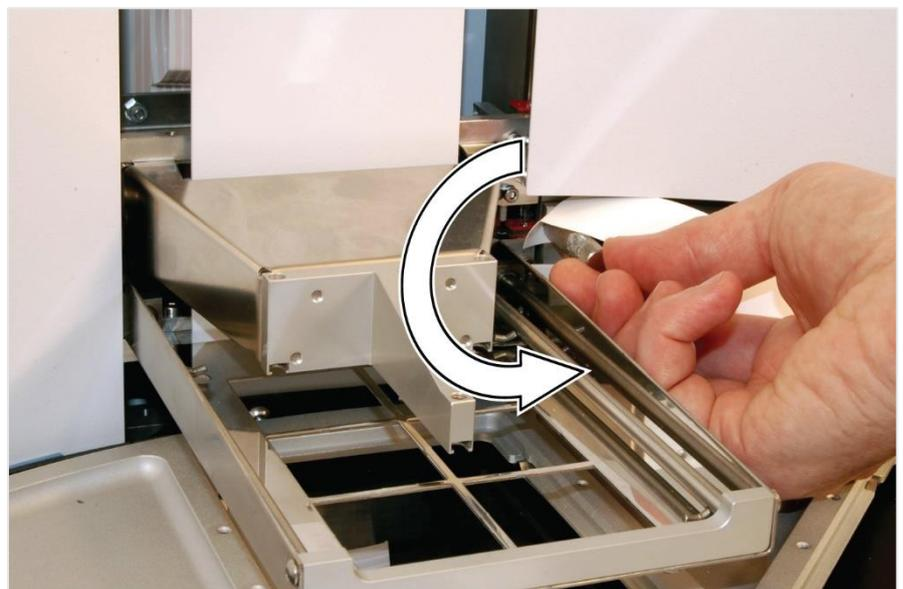

Figure 10. Remove the transport lock of the tip comb holder
1. To remove the transport lock of the tip comb holder, take hold of the transport lock screw and firmly turn it counterclockwise according to Figure 10.